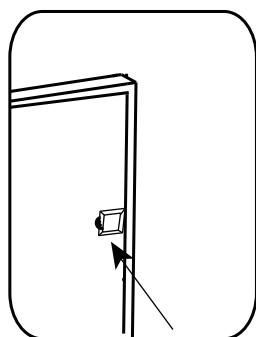

Fig. 6
- Close the front access door. (Fig.6)